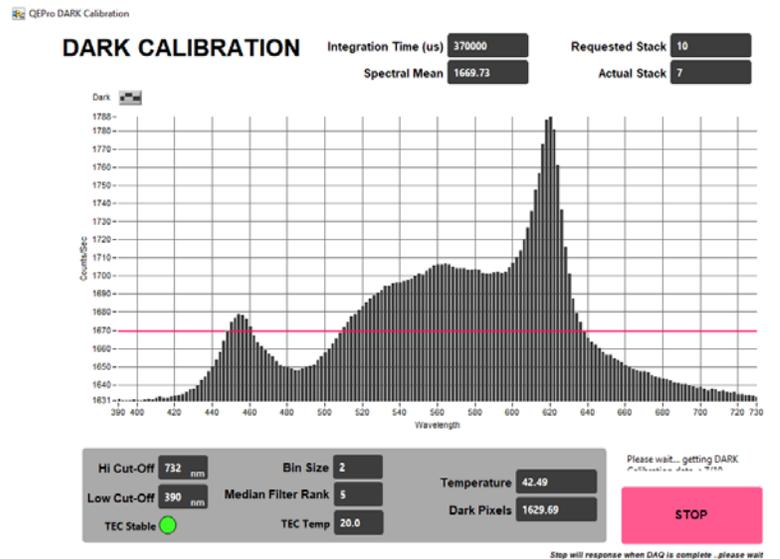

Figure 38. DARK Calibration Screen
5. After the WHITE measurements are completed. The shutters on the light sources will close and the DARK measurement will acquire 20 measurements. The dark measurement is a baseline measurement that includes thermal noise of the system. On the screen (Figure 38):